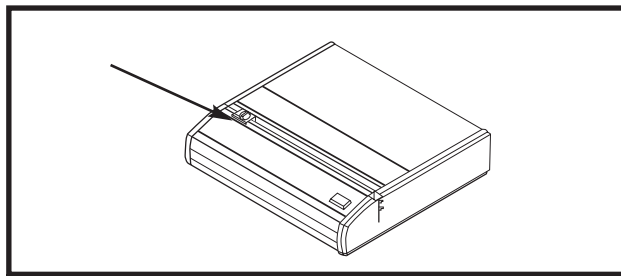

Figure 3
- Align sheets or covers and insert edge to be bound into punch throat. (See Figure 3)